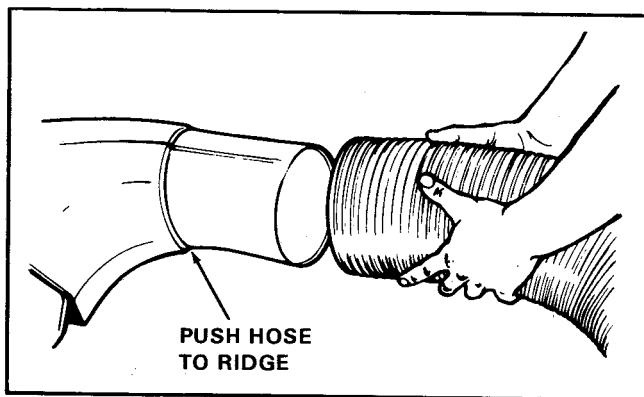

Figure 5. Installing Hose on Adapter
4. Slip other end of inlet hose onto the adapter on mower (see figure 5). Be sure to push the hose fully to the ridge on adapter.